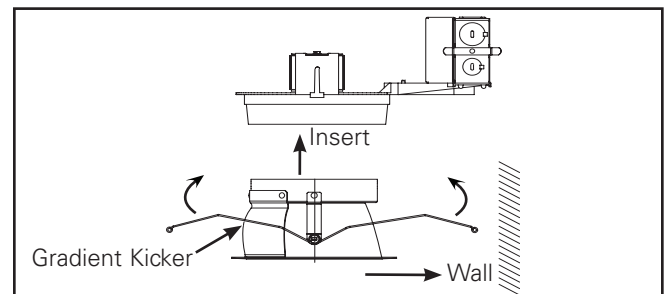

Figure 12.
9. Wall Wash Option For trim installation (Figure 12.).